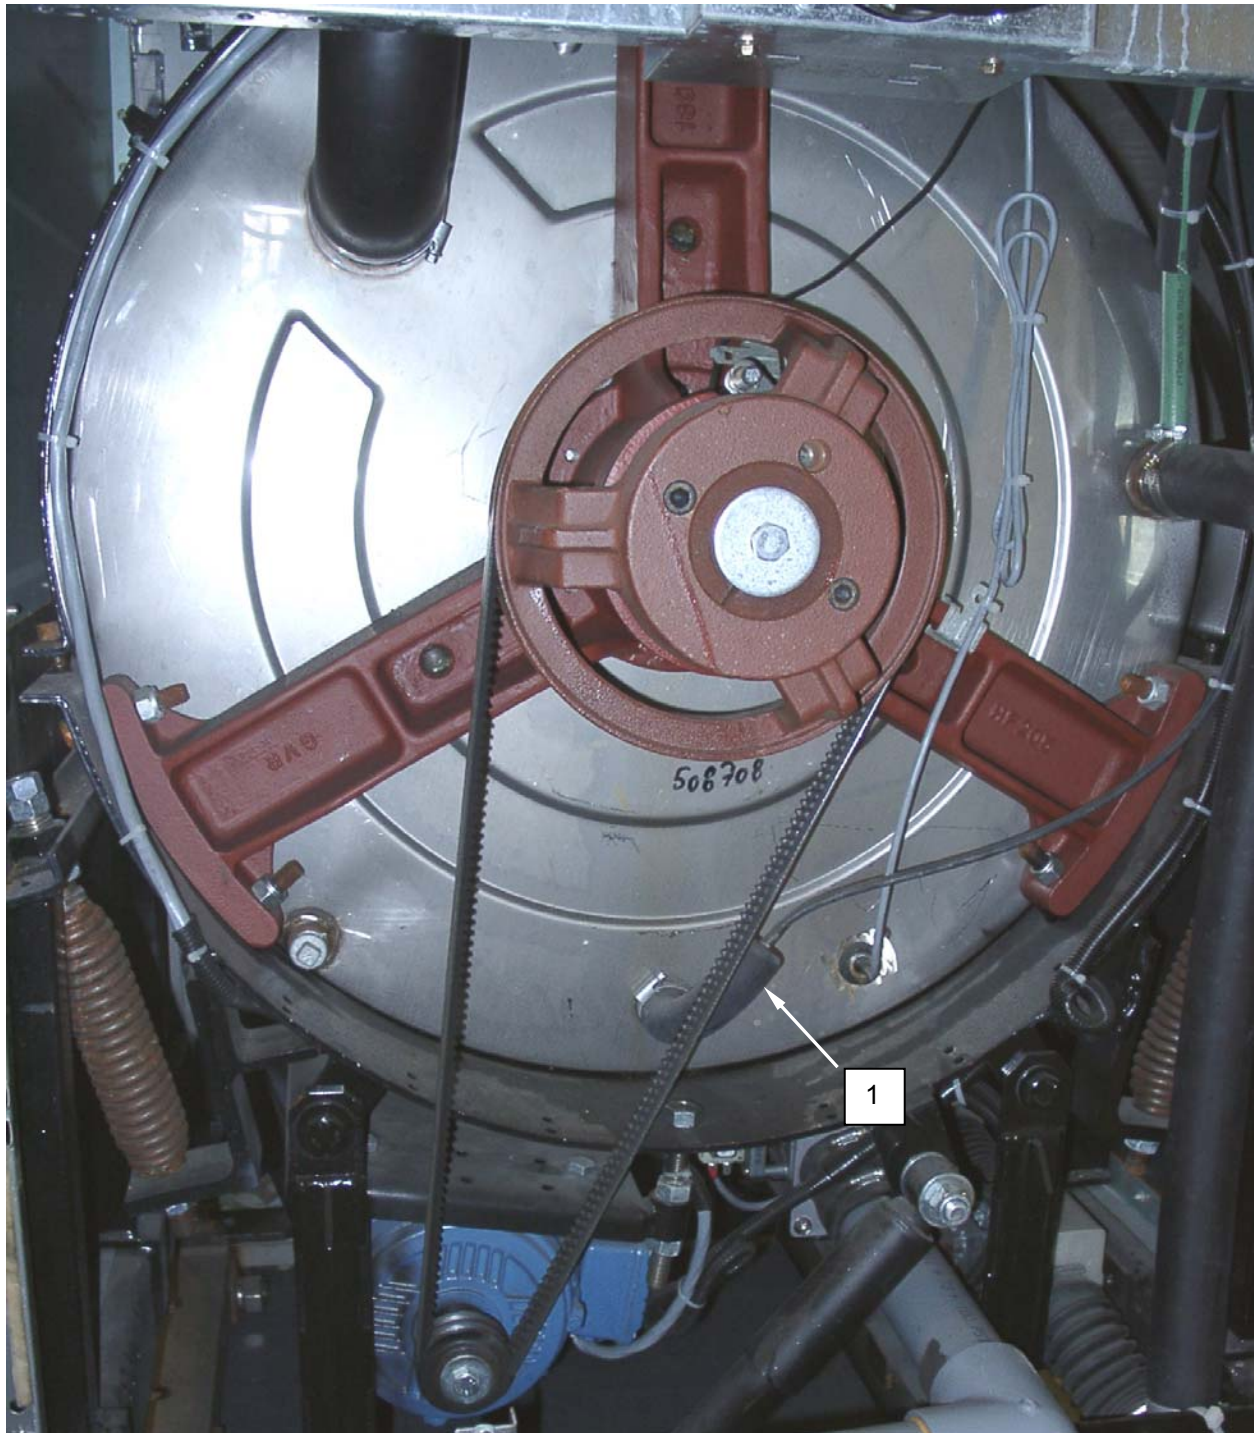

Figure 1. Inspect the Level Sensing Tube.
2. Inspect the level sensing tube (**Figure 1, Item 1**) for material damage, wear, pinching, and proper connection.